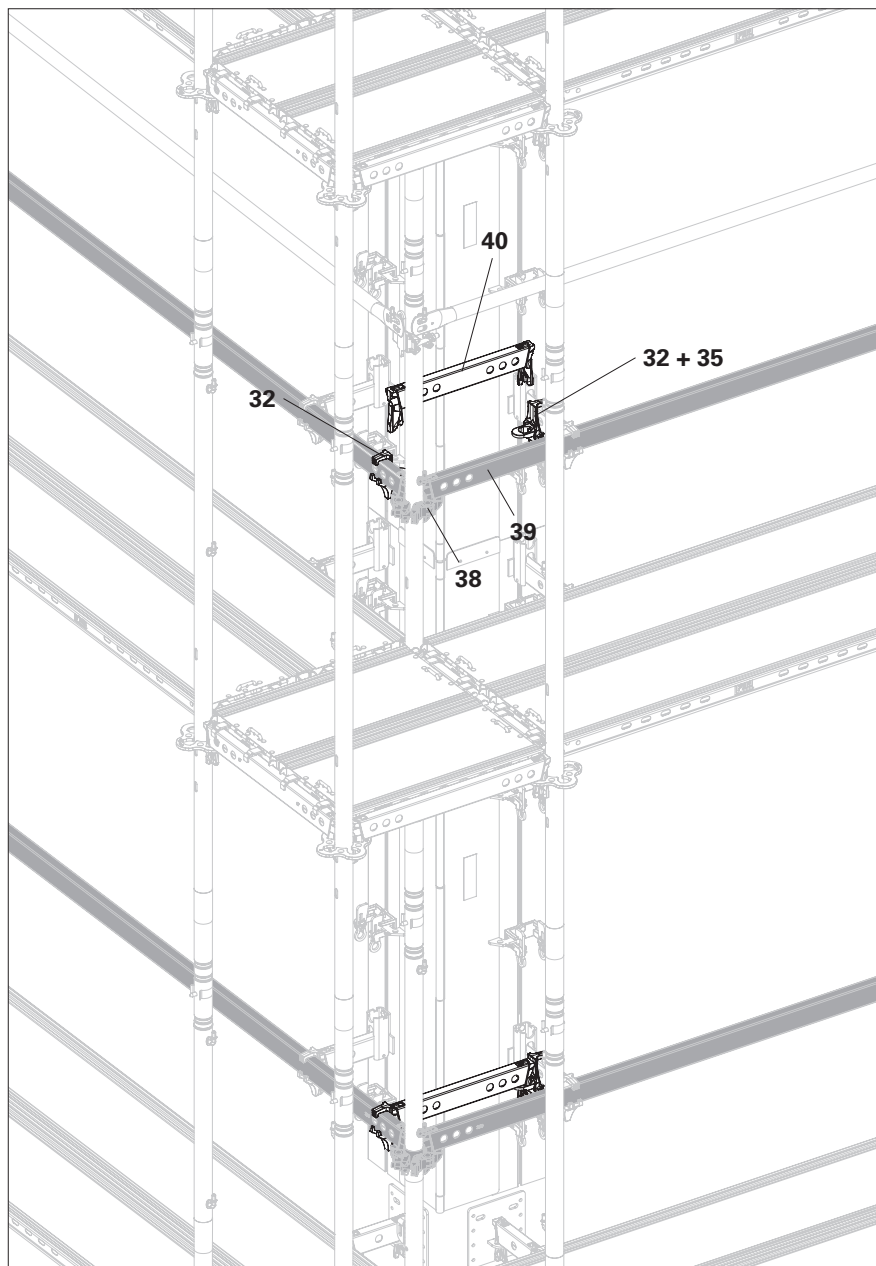
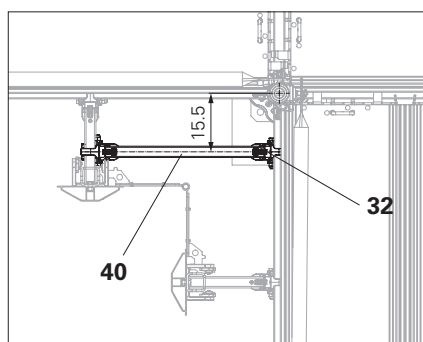

Fig. C2.06
Fig. C2.06a
- When the UC 25 support is assembled on a horizontal ledger (39) which is assembled in a clamping rosette (38).
1. Brace Support UC 25 (32) of a corner leg with additional Horizontal Ledgers UH-2 50 (40) and Ledger-to-ledger couplers UHA-2 (35). Distance to parallel horizontal ledger 15.5 cm. (Fig. C2.06 + Fig. C2.06a)